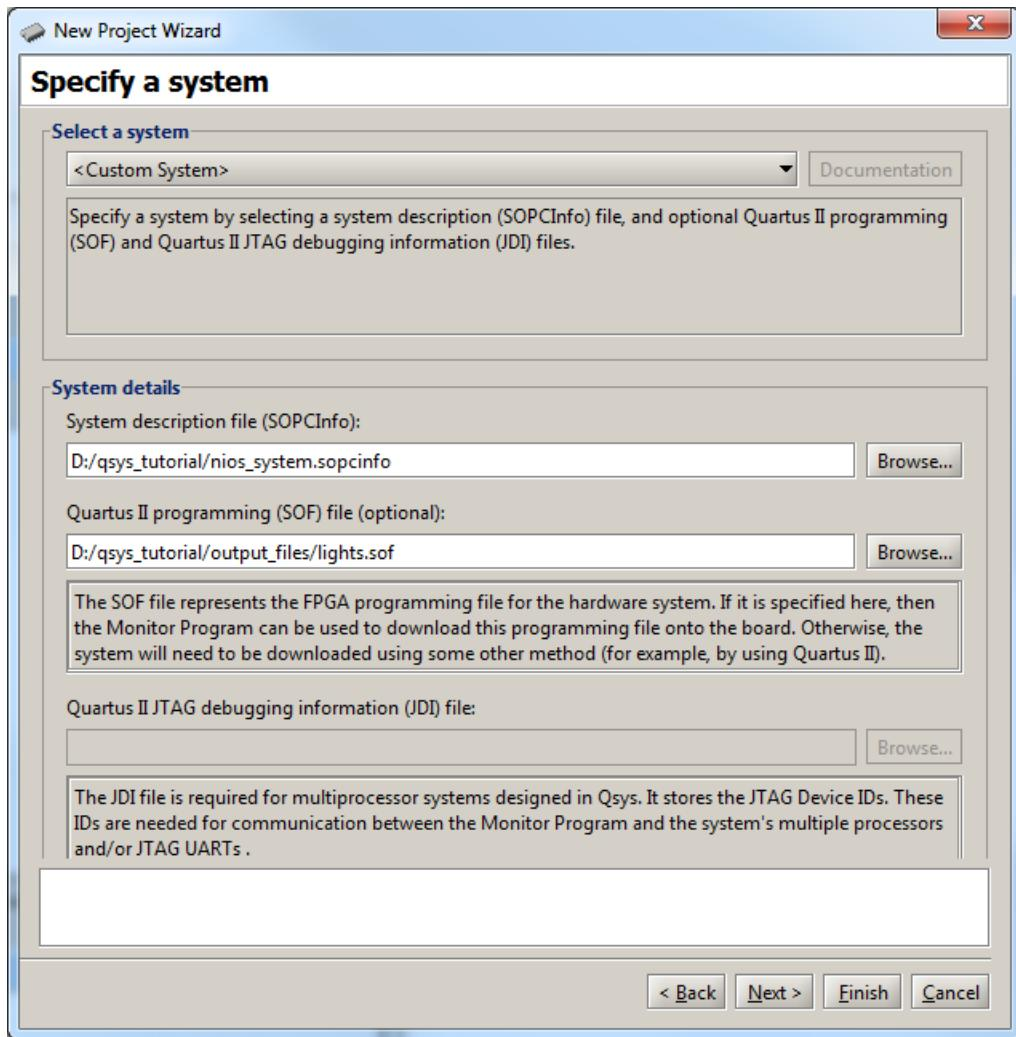

Figure 28. The System Specification window.
3. Select **Nios II** as the Architecture and click **Next**, leading to Figure 28.